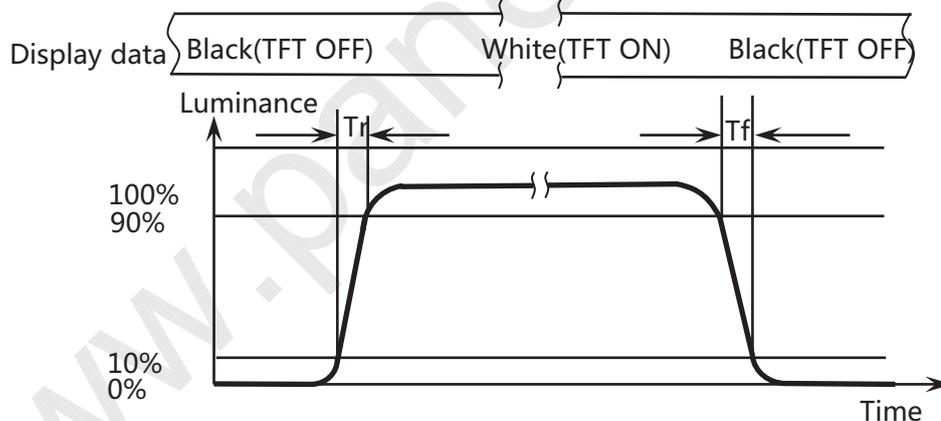

Figure 10. Response Time Testing
6. The electro-optical response time measurements shall be made as Figure 10 by switching the "data" input signal ON and OFF. The times needed for the luminance to change from 10% to 90% is T_r , and 90% to 10% is T_r .
The electro-optical response time measurements shall be made as shown in Figure 10 by switching the “data” input signal ON and OFF. Tr: The luminance to change from 10% to 90% ,Tf: The luminance to change from 90% to 10% .